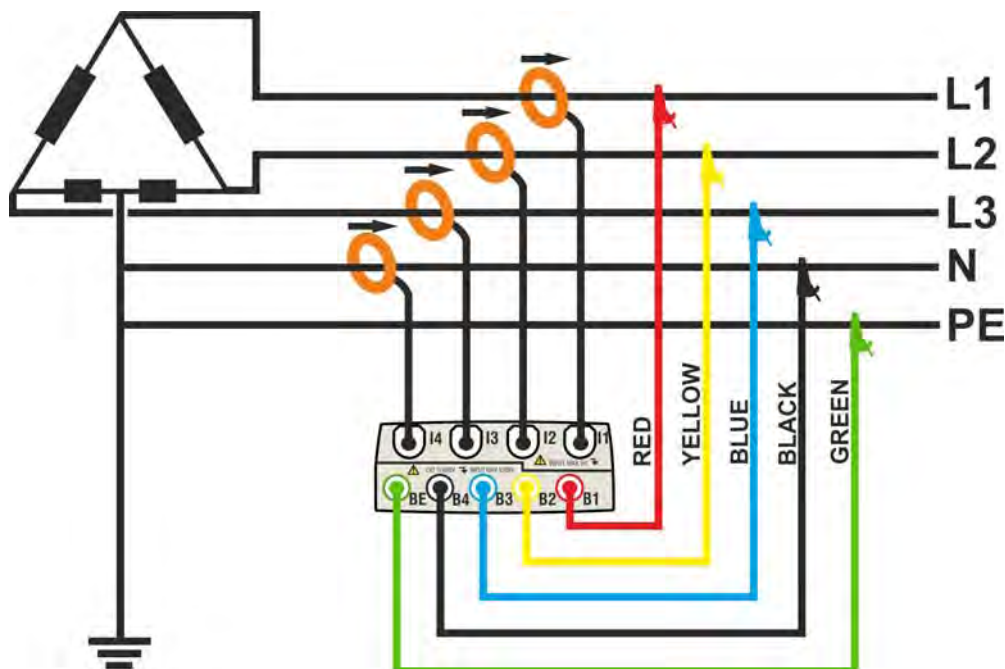

Fig. 139: Meter connection in a three phase 3PHL system – ENG_UK type
2. Connect voltage test leads on Phases L1, L2, L3, N and PE cables considering the colours as shown in Fig. 139. **Verify the result “123” at display relative to a correct phase sequence indication** (see § 5.2.1) and perform the corrections if necessary.
3. Connect the transducer current clamps on Phase L1, L2, L3 and N cables as shown in Fig. 139 respecting the clamp's arrow direction indicating the current standard sequence from generator to load. **On Real Time Values' section screens (selecting a 3 wire system preliminarily) always verify the positive value of Active Power and the power factor relative to load which should be normally inductive** before starting a recording. Reverse the clamp by 180 degrees on cables in case of negative readings.